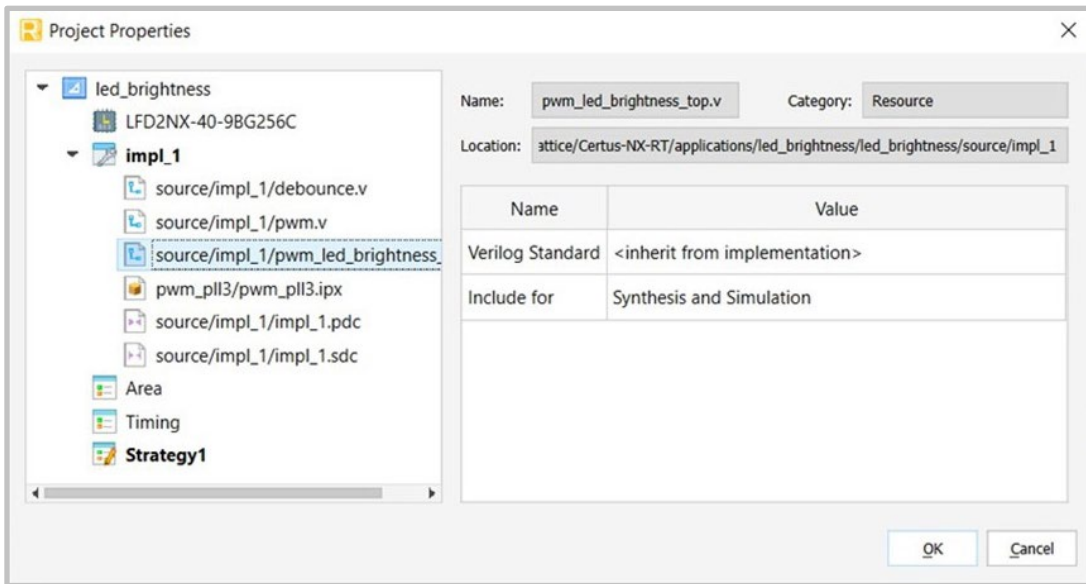

Figure 11: Setting a Top Level File
- From the **Project** menu, select **Active Implementation > Set Top-Level Unit...** and set **pwm_led_brightness_top.v** as the top level file, see **Figure 11**.